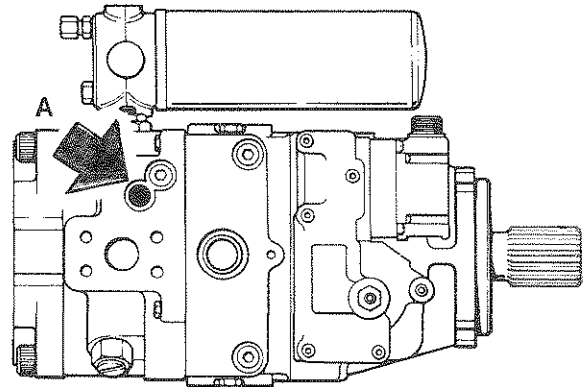

Fig. 52
3. Remove the 1/4 inch JIC cap on gauge port (A), see Fig. 52.
4. Connect a 1,000 p.s.i. gauge onto port (A)